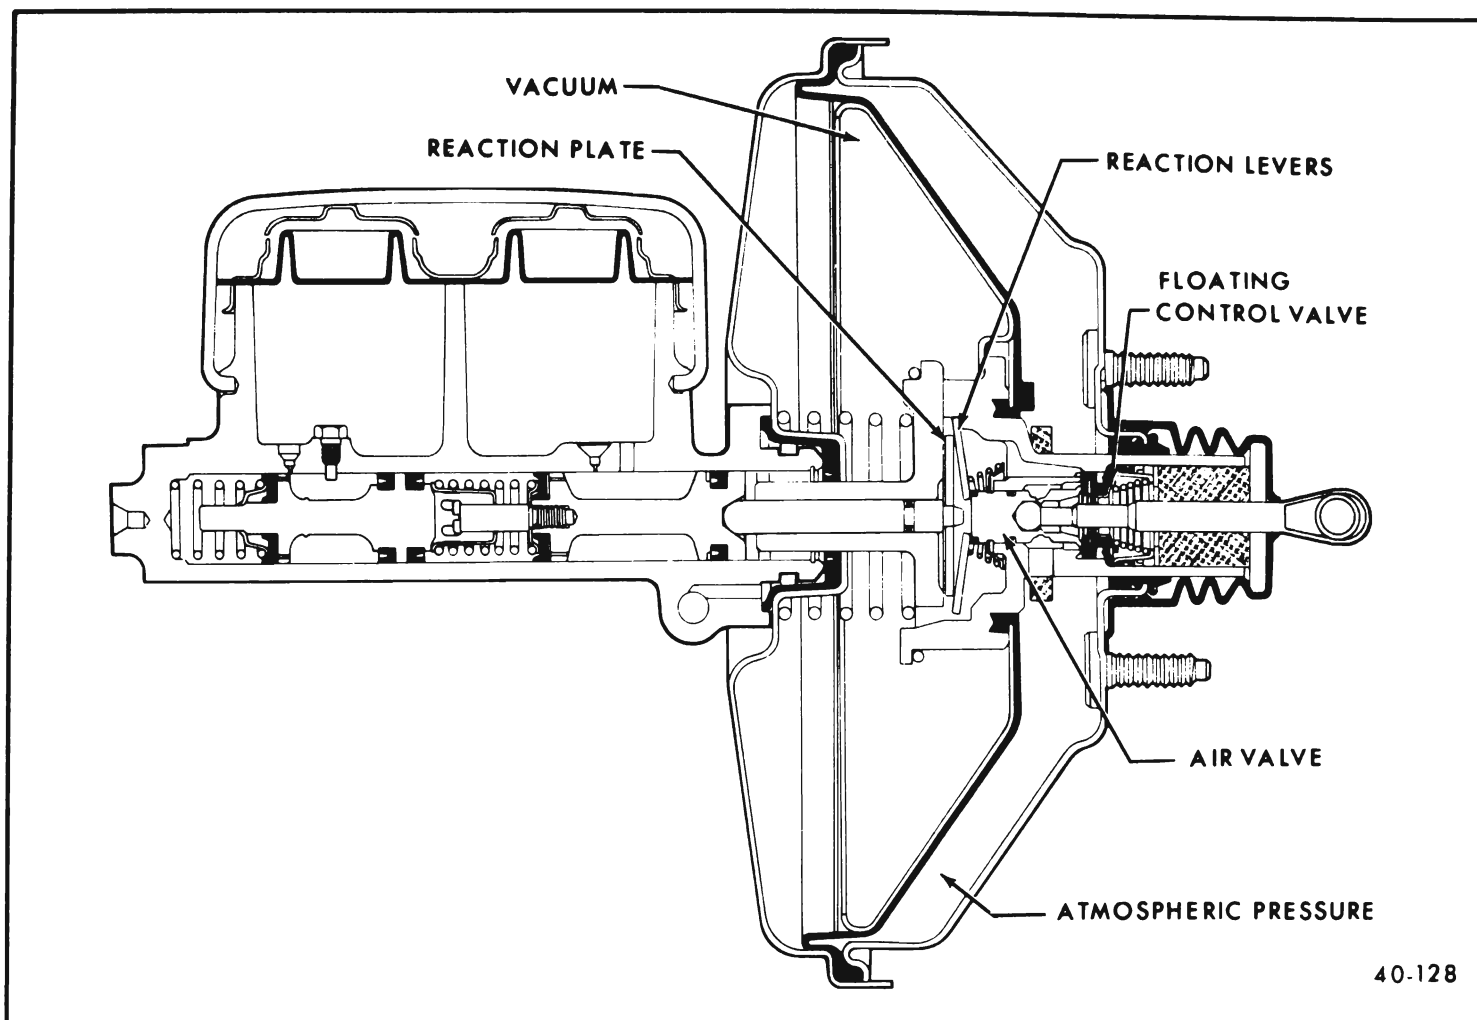

Figure 50-65--Power Brake Unit
3. Holding Position. When the desired pedal pressure is reached, the power piston moves to the front until the floating control valve, which is still seated on the power piston, again seats on the air valve. The power brake will now remain stationary, until either pressure is applied or released at the brake pedal. See Figure 50-65.